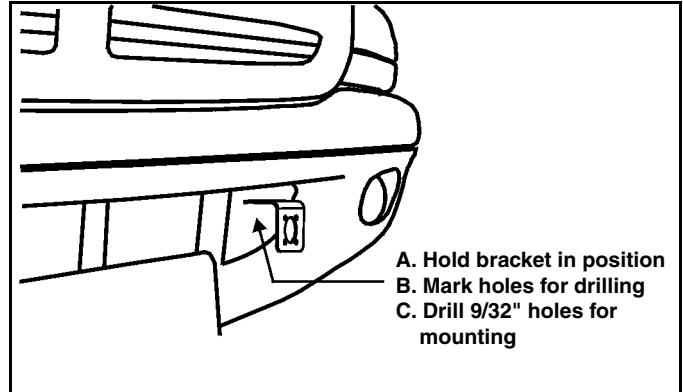

Figure 1-2
1. Using bracket as a template, mark and drill two 9/32" holes into vehicle bumper or other suitable location for mounting of harness bracket. (See Figure 1-2).